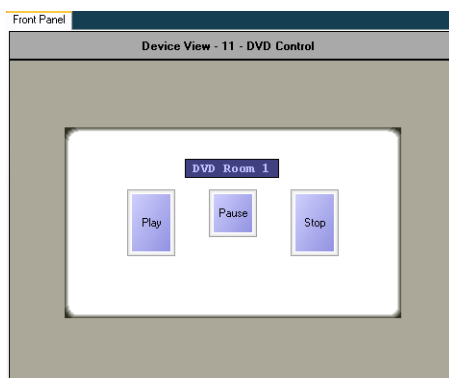

Figure 23: Final Appearance of the “DVD Control” Virtual Device Front Panel in K-Config
3. Right click the label and buttons to name them (see Figure 23):
Figure 23 illustrates the final appearance of the virtual device: